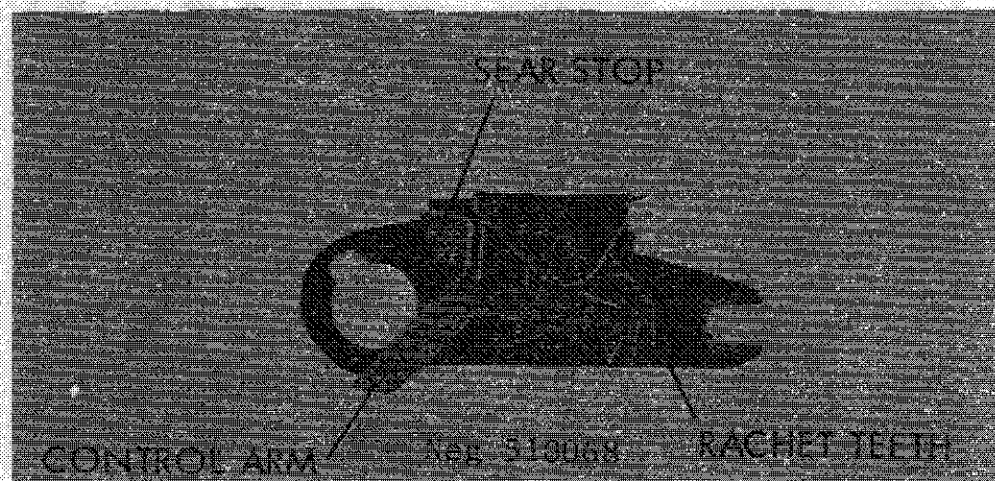

Figure 69. C.A.L. burst limiter.
i. When the selector is set to 3 (three-shot burst), the basic action is identical to the semiautomatic mode as described in "h" above; however, the selector moves the rear of the control arm of the burst limiter (fig 69) downward. This causes the ratchet teeth in the front of the control arm to move up into contact with a pawl on the hammer. When the hammer falls, the pawl lifts the front of the control arm, and the rear of the control arm swings the sear stop (fig 69) down to block the sear to the rear, where it cannot engage the hammer. Because the sear does not engage the hammer, only the safety sear holds the hammer cocked and, when the slide counterrecoils, the sear trip is actuated by the slide to release the hammer. As the hammer swings to fire the second shot, its pawl lifts the control arm one more space. When the hammer fires the third cartridge, the control arm is lifted far enough to release the sear stop. The sear stop, in turn, releases the sear which intercepts the hammer and stops the firing cycle. To fire another burst, the trigger must be released and repressed.